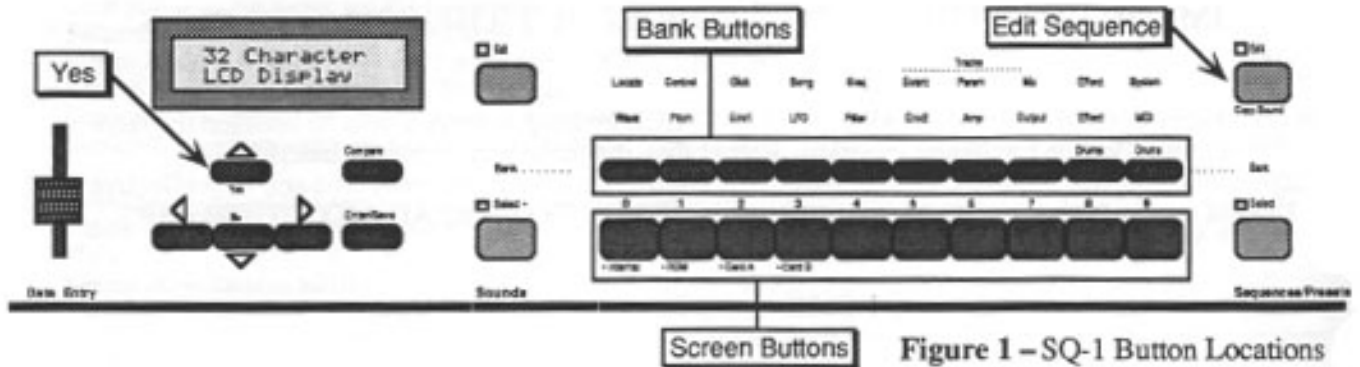

Figure 1 – SQ-1 Button Locations
- Press the *Edit Sequence* button (see Figure 1 for button locations).